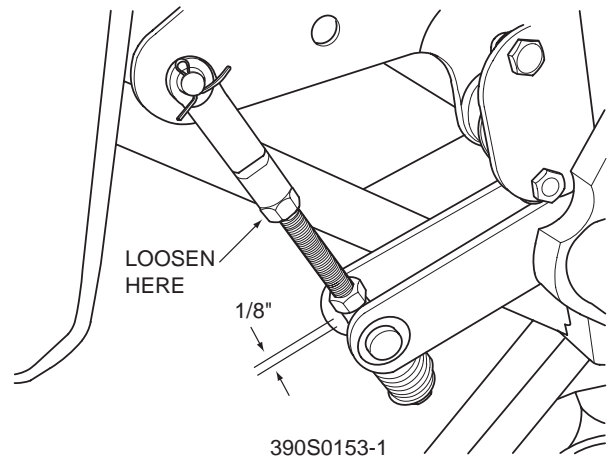

Figure 6-2. Brake Rod Adjustment
4. With the brake in the engaged position, check the spring compression between the two flat washers on the LH side of the machine. The distance should be 1-7/16". See Figure 6-2.
5. If the distance is not at the specified measurement, loosen the jam nut at the rod end side of the brake actuator rod. See Figure 6-2.
6. Turn the adjustment bolt (clockwise to decrease the spring compression or counter clockwise to increase the spring compression) until the 1-7/16" measurement is achieved and tighten the jam nut. See Figure 6-2.